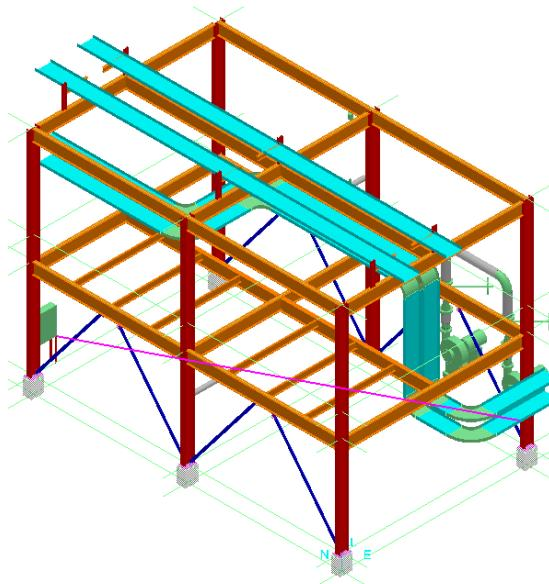

Figure 13: Selected Cable in Unit U01
2. Select **CABLE-3** in the **Workspace Explorer**. SP3D opens the **Edit Cable Path** ribbon and highlights the cable graphically, as shown in Figure 13.